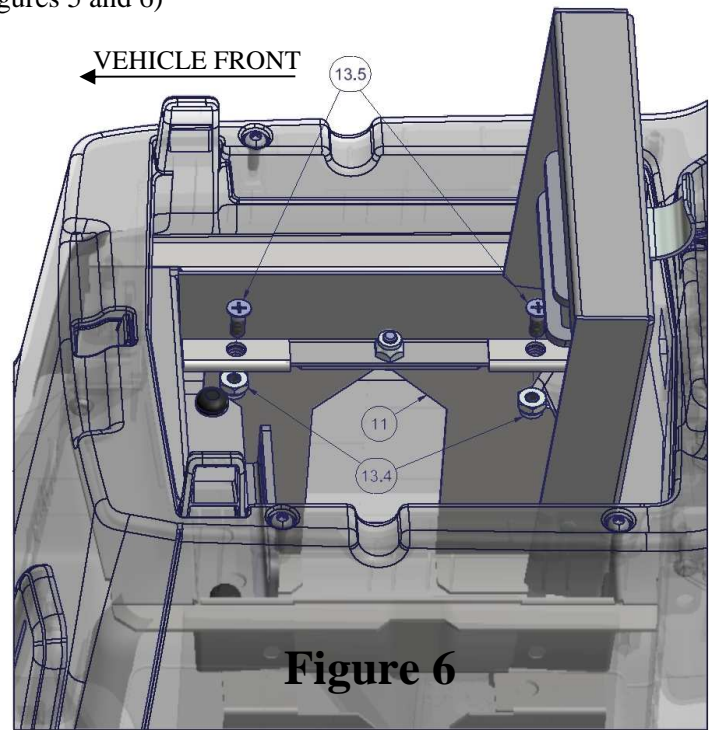

Figure 6
9. Install (2) #13.5 Screws and (2) #13.4 Nylock Nuts to secure the #11 Right Brace in position. (See Figure 6)